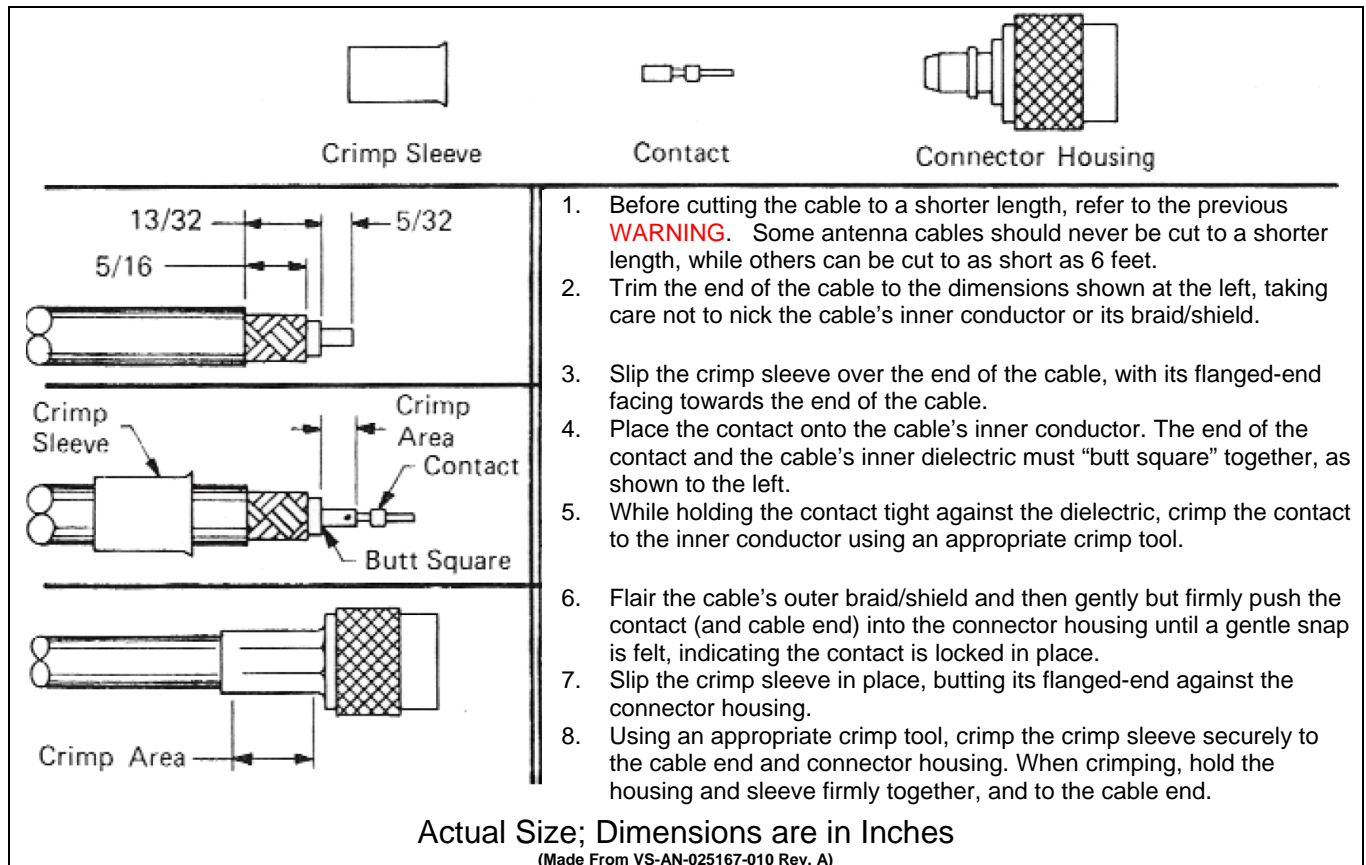

Figure 6-5: Crimping Instructions for TNC RF Connector
2. Using an appropriate crimp tool, crimp the supplied TNC RF connector to the end of the antenna cable. For crimping instructions, see Figure 6-5 or the instructions supplied with antenna mount.